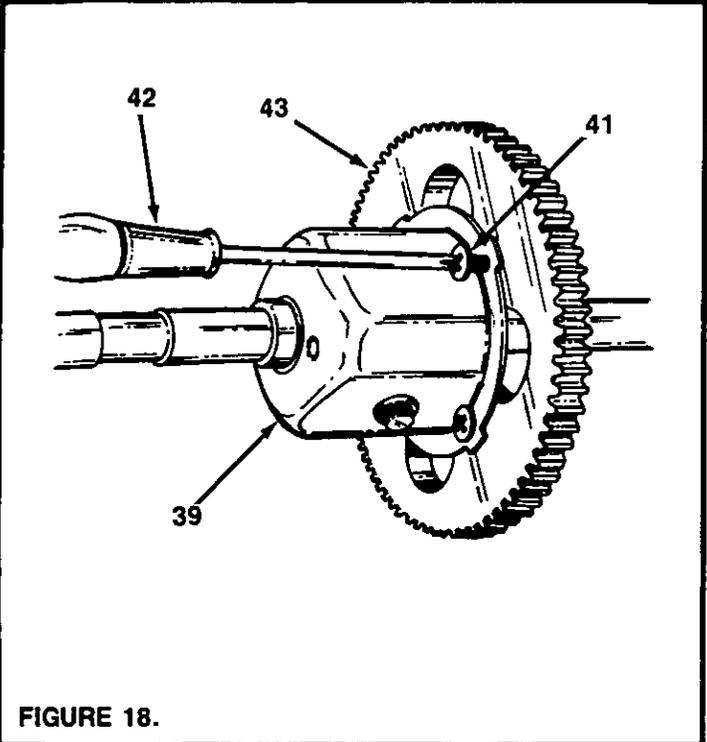

FIGURE 18.
16. With a phillips screwdriver, remove four screws from differential housing at differential gear 72 tooth. See figure 18.